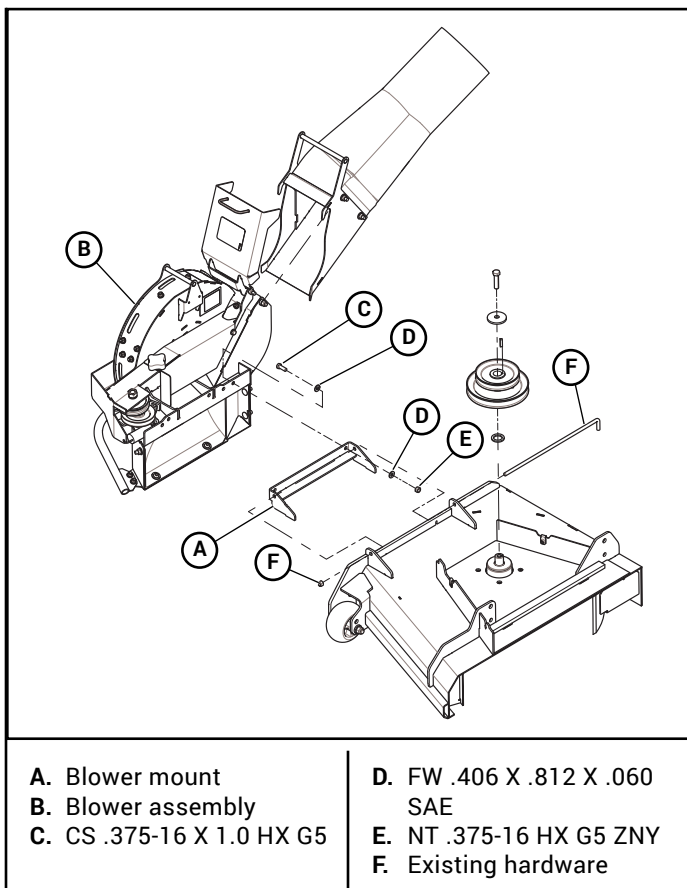

Figure 3-11
9. Assemble the blower mount to the blower assembly. Figure 3-11
10. Attach the blower assembly to the deck by inserting the rod through the discharge chute bracket and the blower mount and secure with a nut. Figure 3-11